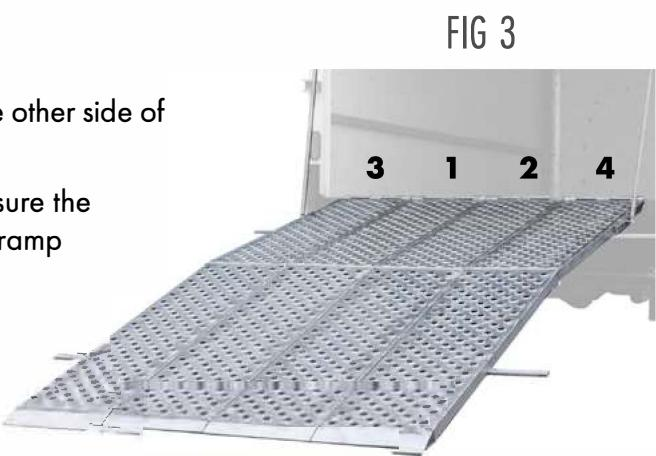

FIG 3
Step 1. Mark the center of the box truck floor. Place the upper hinge flap of the center ramp (#1 or #2 in FIG. 3) on the edge of the steel door frame and line up the hinge flap side edge with the center mark line on the floor.
Step 9. Place the left ramp (#3 in FIG. 3) next to the first center ramp.
Step 14. Place the right ramp (#4 in FIG. 3) next to the second ramp.